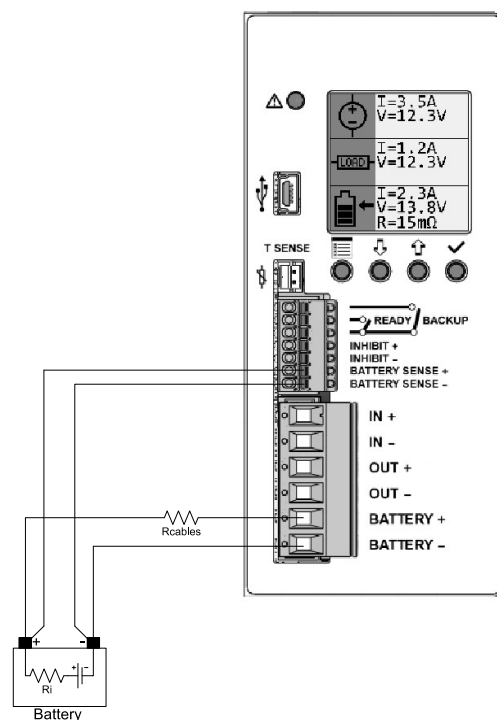

Figure 10: Battery connection with sense
**By using the battery sense connection (a "Kelvin" type connection)** as shown in Figure 10 the AC voltage drop is measured directly at the battery terminal. In this case the measured resistance is **exactly the battery internal resistance  $R_i$** , independently on the cables length and size.